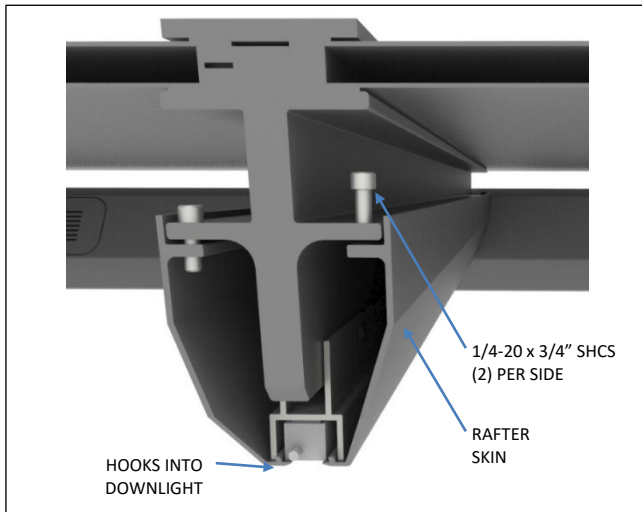

Fig. D5 – install rafter skins
5. Install left and right side rafter skins, with the sharper angle of the skin toward the front of the rafter. See Fig. D5. Rafter skins have a boss on the bottom flange that hooks into the downlight, see Fig. D5. Hook the bottom of the skin into position and then rotate the top of skin up to the rafter beam. Using a 3/16" hex key, install (2) 1/4-20 x 3/4" socket head cap screws, located in hardware pack #62599 at the top. Tighten until gap between light and rafter skin is gone and rafter skin does not rattle. Do not overtighten screws.